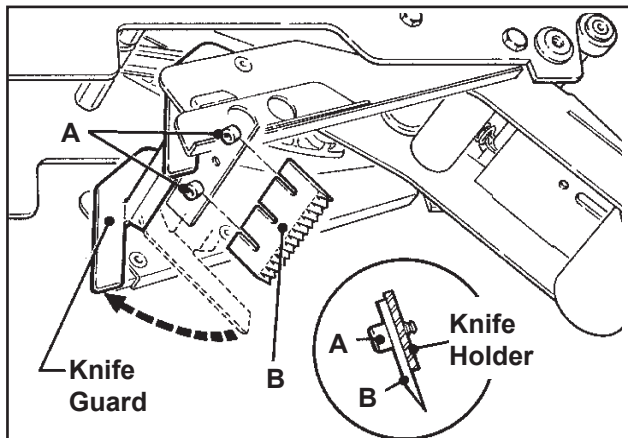

Figure 4-1 Blade Replacement
**Blade Replacement, Upper and Lower Taping Heads – Figure 4-1**
1. Loosen, but do not remove, the blade screws (A). Remove and discard old blade.
2. Mount the new blade (B) with the beveled side away from the blade holder.